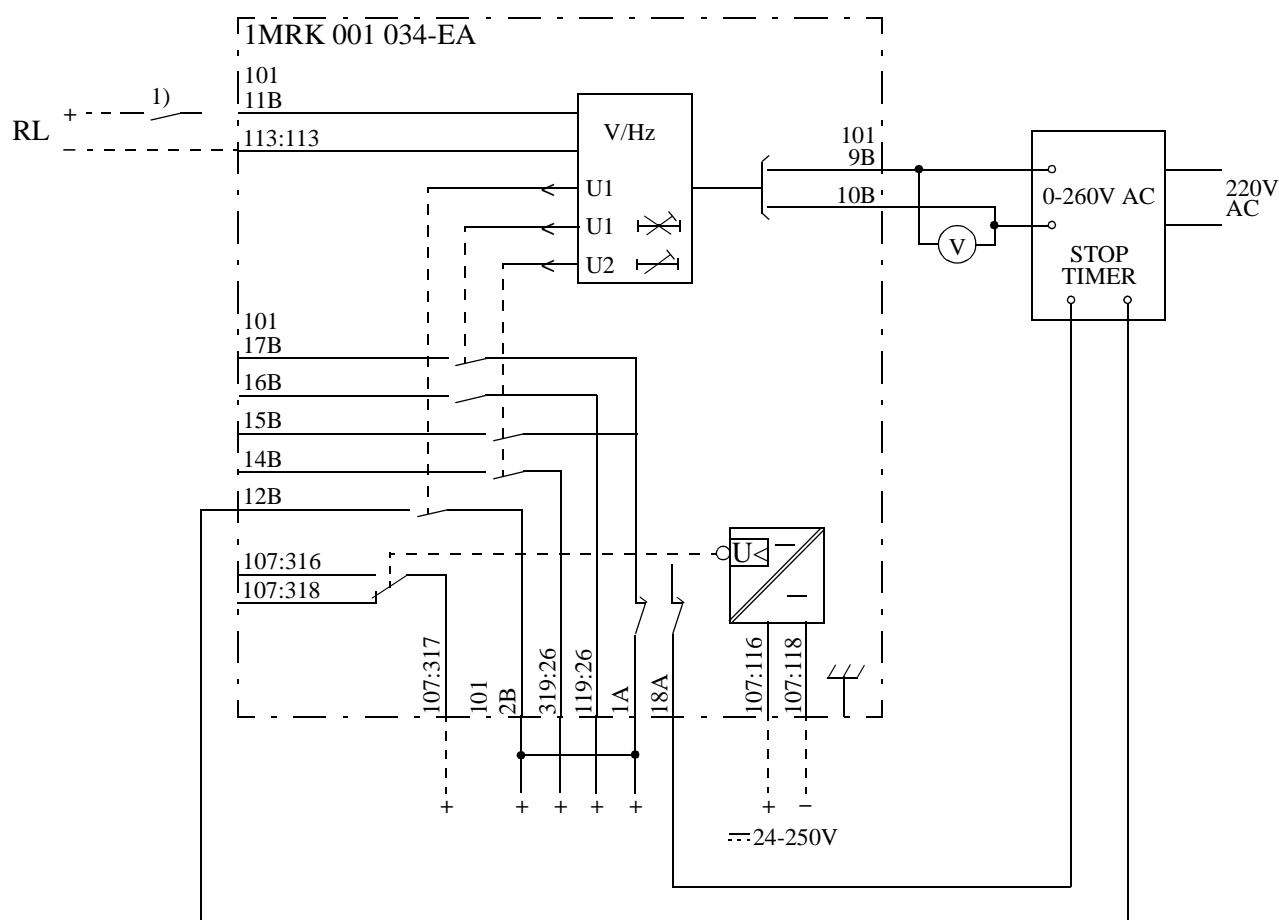

Fig. 18 Connection of test apparatus to RALK 1. Test handle RTXH 18 inserted
Fig. 18 shows as an example the connection of test set SVERKER for secondary testing of RALK 1, Connection Diagram 1MRK 001 034-EAA. When testing, the actual circuit diagram of the protection, which shows the internal connections, should also be available.
1. Connect the test set and the voltmeter acc to Fig.18. Insert the test-plug handle into the test switch. Check that auxiliary voltage is connected to terminals 101:1A and 101:18A. Interconnect terminals 1 and 2 on the test handle to get output voltage to test terminal 12 when the start function for stage 1 is activated.